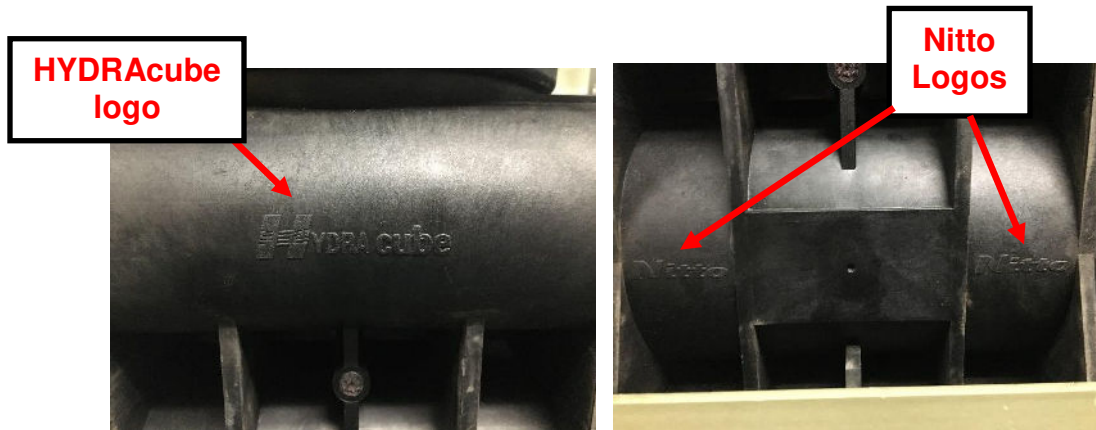

Figure 2: Gen2 design and logos help the assembler determine the cubes correct orientation.
- 4) Gen2 cube has two locations where company logos are visible (See Figure 2). This helps the user identify the direction of the cube during assembly. (See TSB352 for assembly instructions).